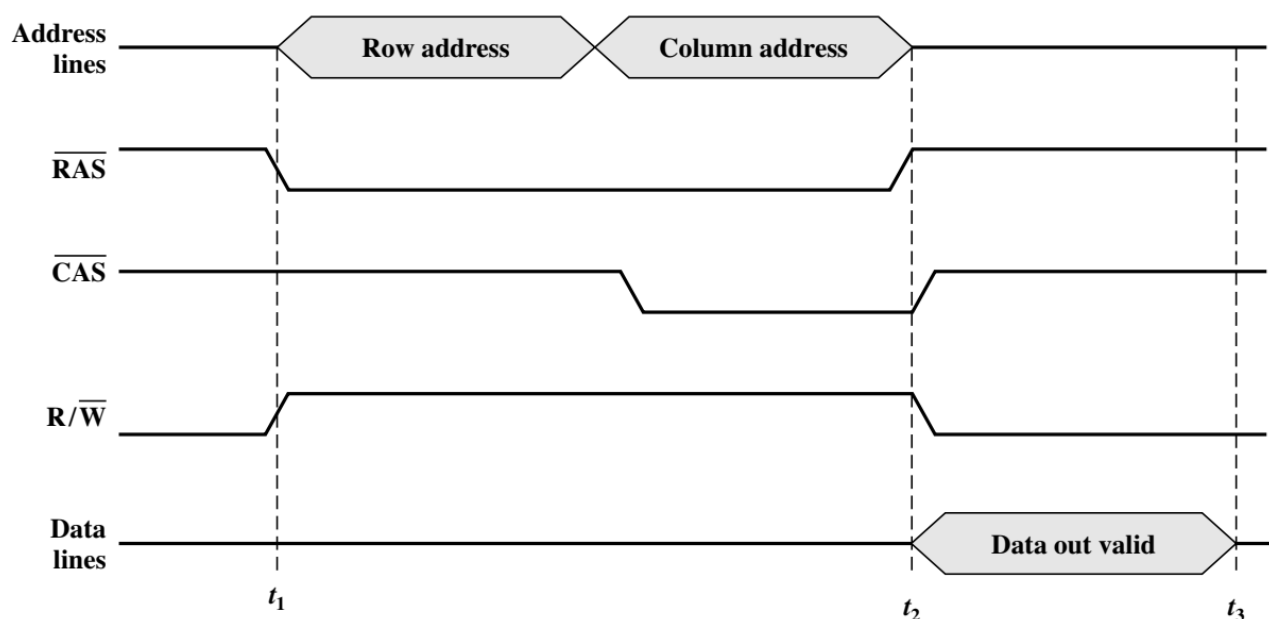

Figure 5.16 Simplified DRAM Read Timing
- Figure 5.16 shows a simplified timing diagram for a DRAM read operation over a bus. The access time is considered to last from t_1 to t_2 . Then there is a recharge time, lasting from t_2 to t_3 , during which the DRAM chips will have to recharge before the processor can access them again.